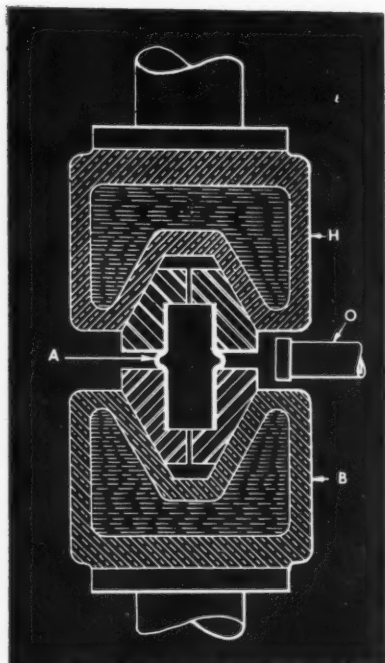

Fig. 1. Tubular part (A) is effectively crimped around its periphery, regardless of variation in wall thickness, by means of the set-up shown in Fig. 2
H. B. Schell of Brooklyn, N. Y., writes: "Under the stated circumstances, the fixed center distance results in an indeterminate equation. Buckingham, in Volume 3 of 'Manual of Gear Design,' gives a graphical method, attributing it to Olsen, for solving such problems. For a complete explanation, J. R. H. is referred to that work, beginning on page 138. This solution is shown in the accompanying diagram, Fig. 1."
Mr. Schell then goes on to suggest that a 35-tooth gear be used in place of the 36-tooth gear, but having the same normal diametral pitch. The pitch radius of a 35-tooth, 8-pitch spur gear would be 2.1875 inches. A circle representing this gear is also shown in Fig. 1, and it will be noted that the intersection of the 90-degree dotted lines, which are tangent to the 35-tooth and 13-tooth spur gear pitch circles, can now be made to fall on the center line.
Fig. 1. Graphical method of determining helix angles of a pair of helical gears when center distance, normal diametral pitch, and number of teeth in each gear are known
MANY of the problems arising in hot metal-working operations, such as crimping, heading, and collapsing of thin-wall tubes, can be overcome successfully by the method here described. Pressure is applied to the work by dies operated through an automatically controlled air circuit. The air circuit is interconnected with a photo-electric temperature-control unit and a source of electrical power for heating the work. Flanges were crimped around the peripheries of tubular parts in this way, as shown in Fig. 1, at high production rates by unskilled operators.